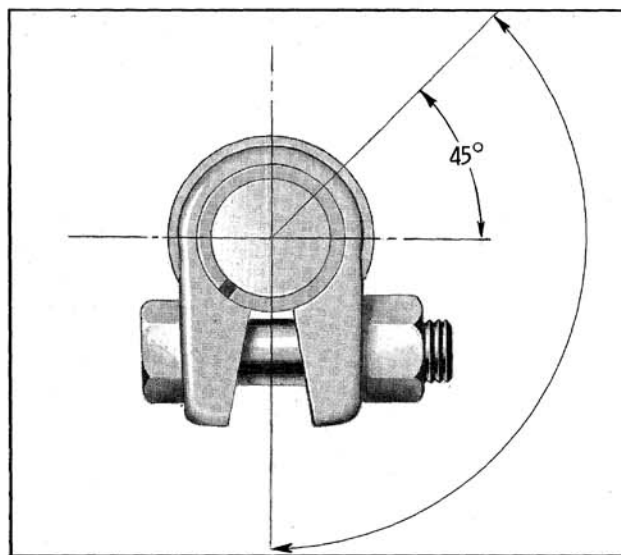

Fig. 9-36 Tie Rod Clamp Positioning
3. When adjustment has been completed according to the recommended specification, and tie-rod and ball studs are riding squarely in their seats, position inner clamps as shown in Fig. 9-36.